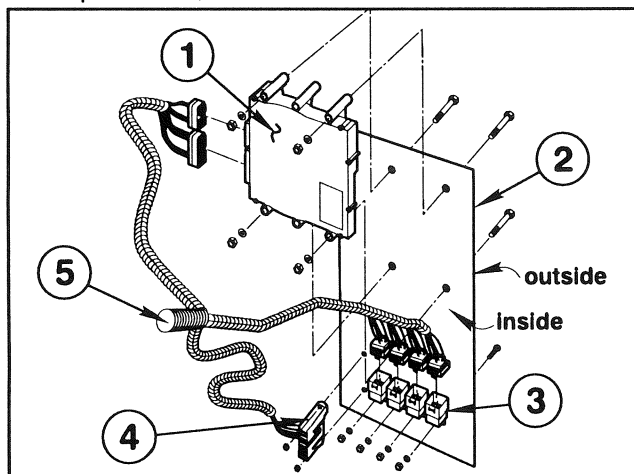

FIG. 7
2. Mount ECU to Console Cover using four (4) 1/4 NC x 2-1/2" hex hd cap screws, lock washers and hex nuts. See FIG. 7
3. Mount four (4) Relays using 1/4 NC x 5/8" hex hd cap screws, lock washers and hex nuts.